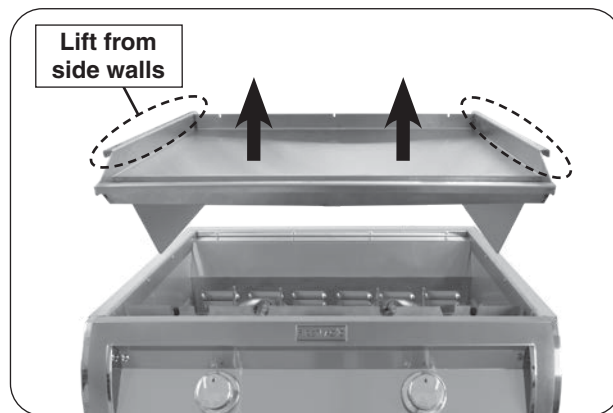

Fig. 20-3 Remove griddle top
**Note:** Lift the griddle top from the left and right raised walls. See Fig. 20-3.
2. Rotate the front support adjustment bolts to the left to raise and to the right to lower the respective side of the appliance. Use a  $\frac{7}{16}$ " open-end wrench as needed. See Fig. 20-3.